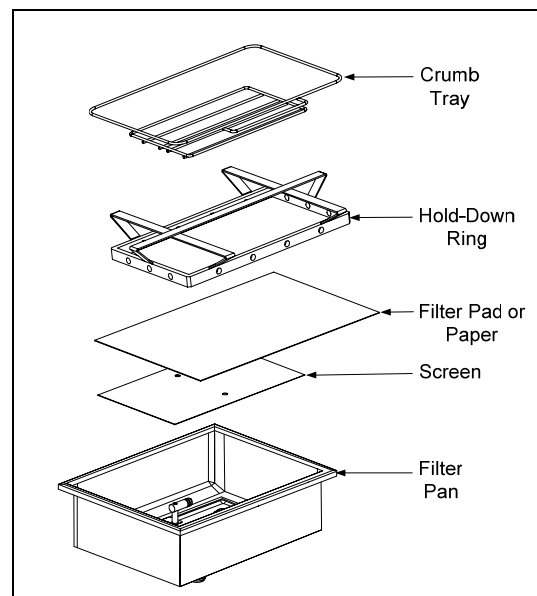

Figure 1
1. Pull the filter pan out from the cabinet and remove the crumb tray, hold-down ring, filter pad (or paper), and filter screen. (See Figure 1) Clean all metal parts with a solution of All Purpose Concentrate and hot water then dry thoroughly.
- Reinstall the crumb tray at the front of the pan. (See Figure 1)